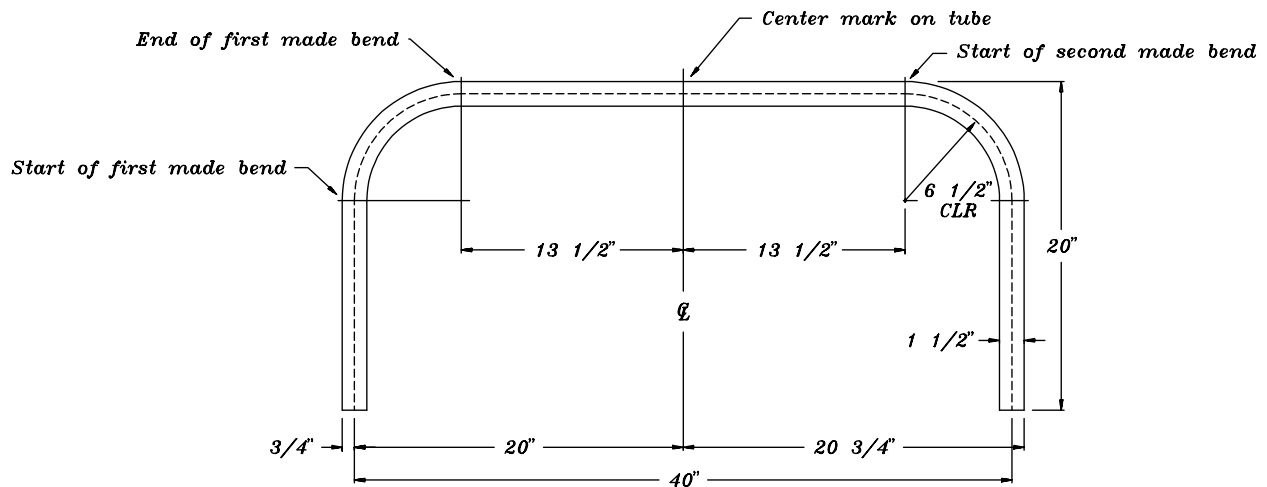
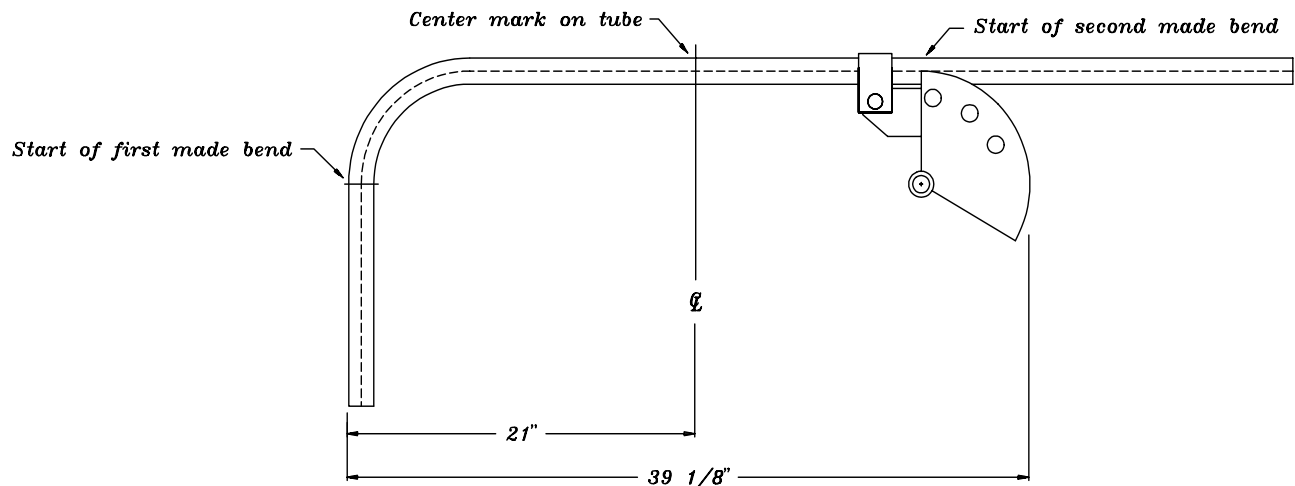

Figure 9- Example hoop.
Figure 10
First step is to draw a sketch of the intended shape and all measurements. Figure 9 below is the desired hoop. The Bending Die has a centerline radius (CLR) of 6 1/2". The tube O.D. is 1 1/2". We determined earlier, using the method described on page 4, that the Bend Start measurement is 3/4" behind the edge of this particular Bending Die set.
4) Now for the other bend. First we need to determine how much the tube stretched in the bend area. From figure 9 we see that the tube should be  $20 \frac{3}{4}''$  from the outside edge to our  $37 \frac{1}{4}''$  center mark. However after measuring from our center mark to the outside edge of the bend we now have  $21''$  and not the planned  $20 \frac{3}{4}''$ . This  $\frac{1}{4}''$  increase is due to springback and the tube stretching in the area of the bend.
Look at figure 9 and notice the second bend starts at the top of the hoop and not at the top of the upright as the first bend did. Also the start of the second bend is drawn as 13 1/2" from the center mark. If you take the 13 1/2" measurement and subtract the 1/4" of growth that was developed in the first bend and another 1/4" to compensate for the second bend's growth you end up with 13". Subtract another 3/4" to account for the 3/4" Bend Start location on the Bending Die set and we have a final setting of 12 1/4". Notice we did not subtract an 1/8" for springback. This is accounted for already in the 1/4" we added for the second bend's growth. Set the tube so that the Bending Dies edge is exactly 12 1/4" from the center mark. Make sure the universal protractor reads '0' and the carpenter's level is centered. As one final check you can also measure from the far side of the completed bend to the edge of the bending die. See figure 10. This measurement should read:
The second method is basically the opposite of the first method. The second bend will start at the bottom of the upright and *NOT* at the top of the hoop as in the first method and as shown in figure 10. We use the same method as used to bend the first bend with a few exceptions. First calculate the starting point for the second bend as shown below: